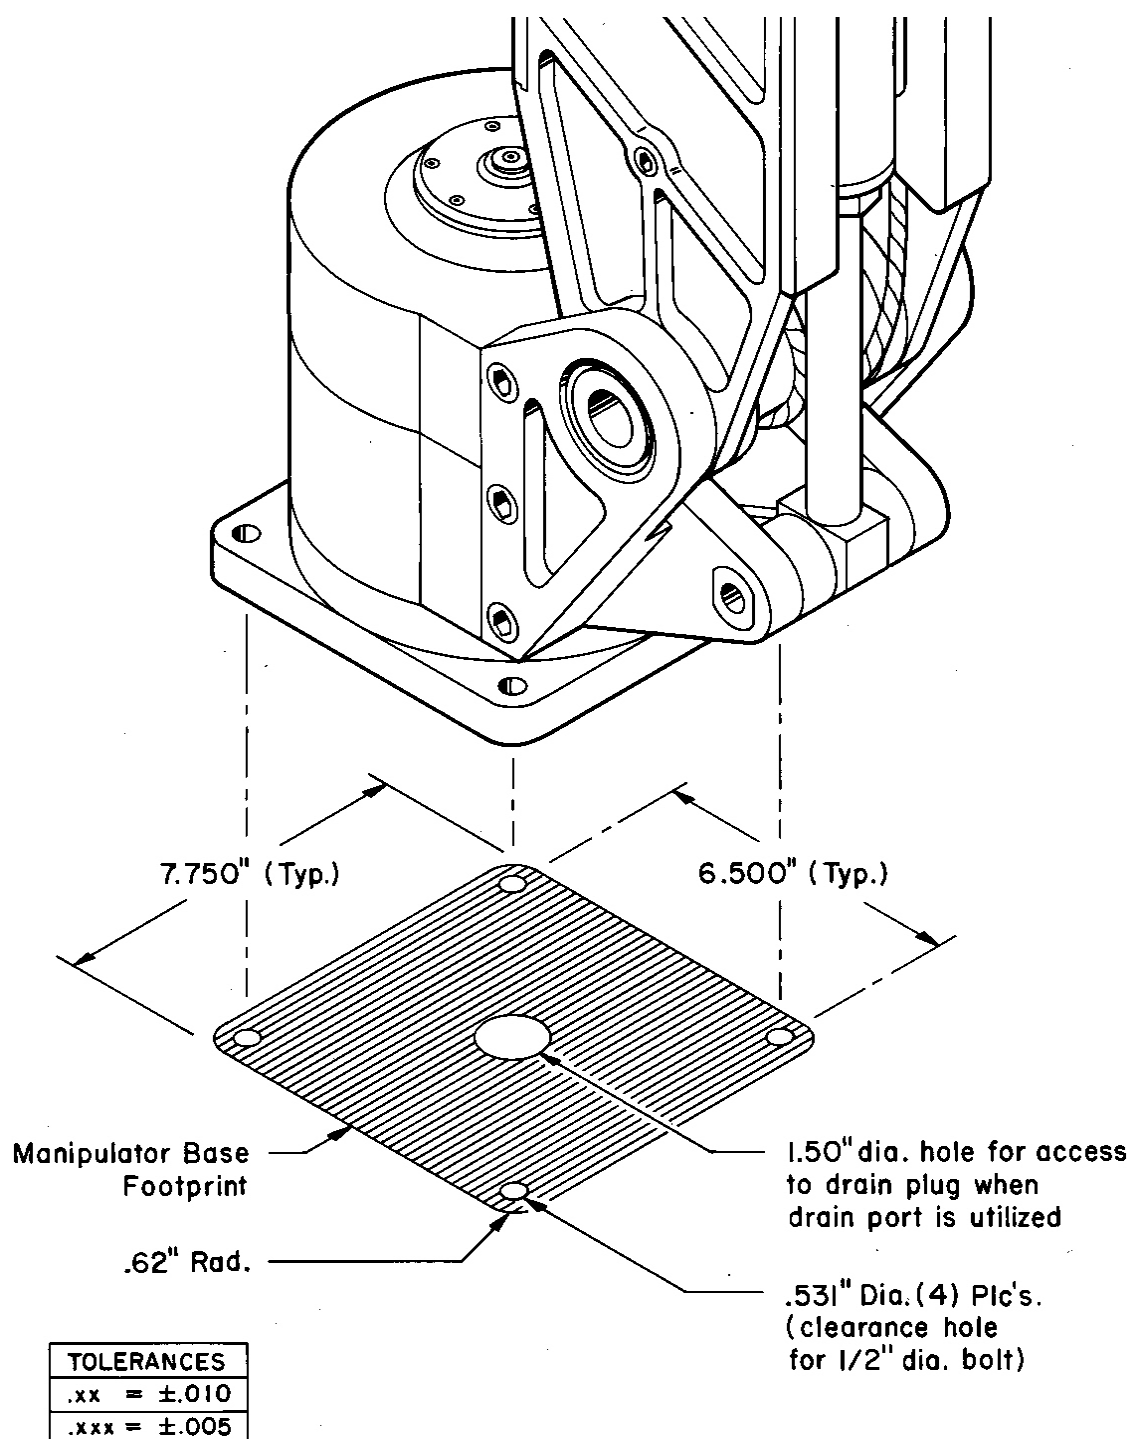

Figure 2-3 Raptor Slave Arm Mounting Surface
The manipulator is spot mounted to a vehicle or platform using (4) 1/2-13 UNC-2A socket head cap screws, having a minimum tensile strength of 35,000 lbs., and 4 nylon insert-type lock nuts. If conventional type hex nuts are substituted, they should be installed using Loctite 242 or the equivalent. The companion surface should be flat within .001" and have a hole providing access to the plug in the base plate of the manipulator as shown in Figure 2-3. The bottom of the manipulator mounting plate and the companion mounting surface should be wiped clean before setting the manipulator in place. The socket cap screws should be inserted through the manipulator side of the mounting plate first so that the nuts are tightened from the back side of the receiving mounting surface. To prevent damage to the manipulator's protective coating, the head of the socket cap screw should be kept from rotating with a hex key while tightening the nuts. Fasteners should be tightened to a torque value of 500 inch lbs. The socket head cap screws and nuts used to secure the manipulator to the pallet when shipped are suitable to use for installation.